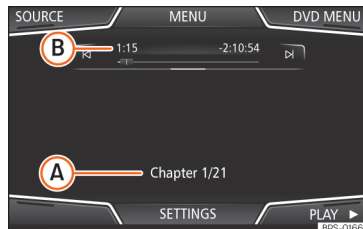

Fig. 218 DVD main menu.
- Briefly touch the screen to activate the function buttons in the *DVD mode* main menu »» Fig. 218.